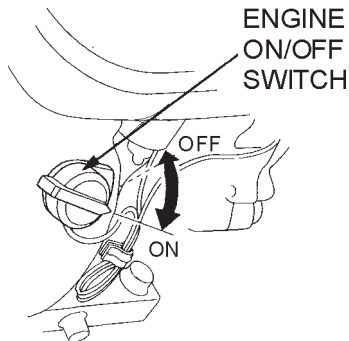

Figure 8. Engine ON/Off Switch
2. Place the **Engine ON/OFF switch** (Figure 8) in the **ON** position.